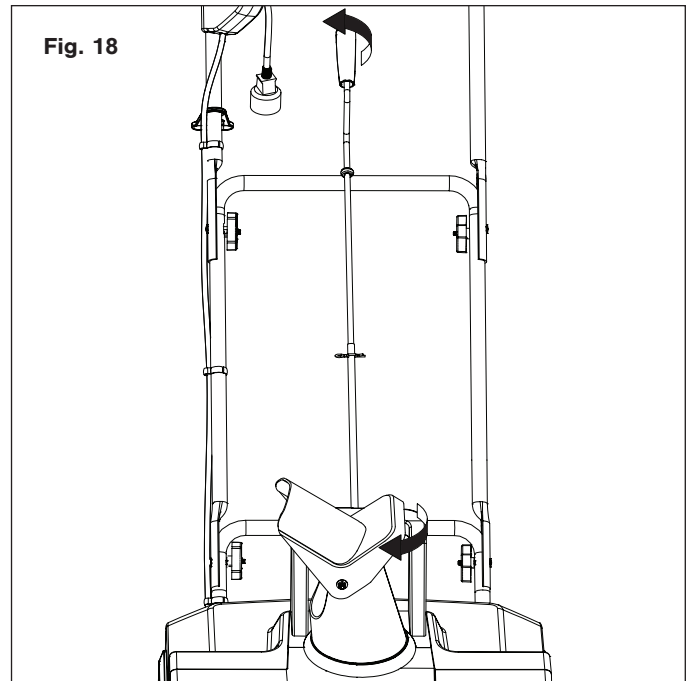

Fig. 18
1. The discharge chute can be adjusted 180 degrees by rotating the chute crank. Rotate the chute control crank clockwise to move the discharge chute to the left (Fig. 17) and counterclockwise to move the chute to the right (Fig. 18).